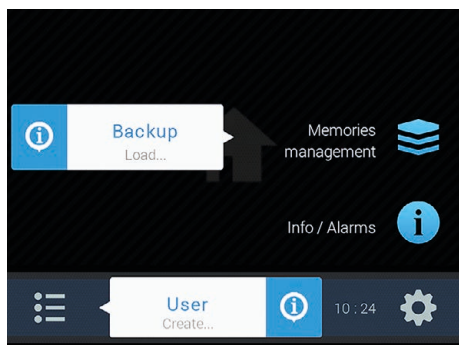
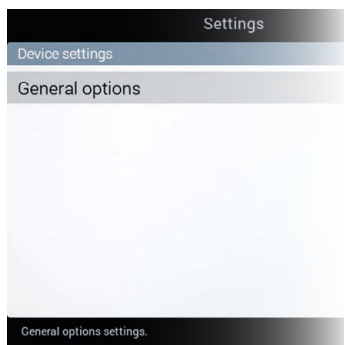

Fig. 10
Fig. 11
Upon first switching on, after system checks, the monitor directly accesses screen "Home" (Fig. 10). Set the monitor language.
- In the screen "Home" (Fig. 10) press **FB** to access the menu **Settings** (Fig. 11).